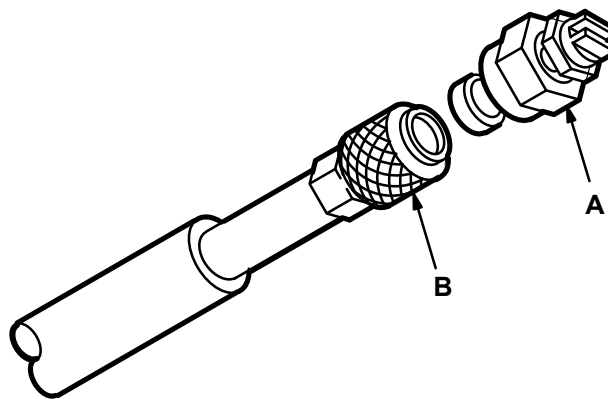

Figure 3
3. Without holding your hand over the spray tip (A), pull back the quick coupler ring (B). Remove the old tip and install a new one, and then release the ring. See Figure 3.